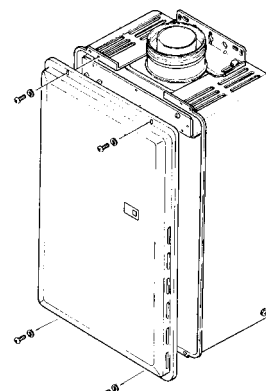

fig.1
2. Remove the front cover from the Appliance (4 screws) fig. 1.
7. Remove the front cover from the Appliance (4 screws) fig.1.